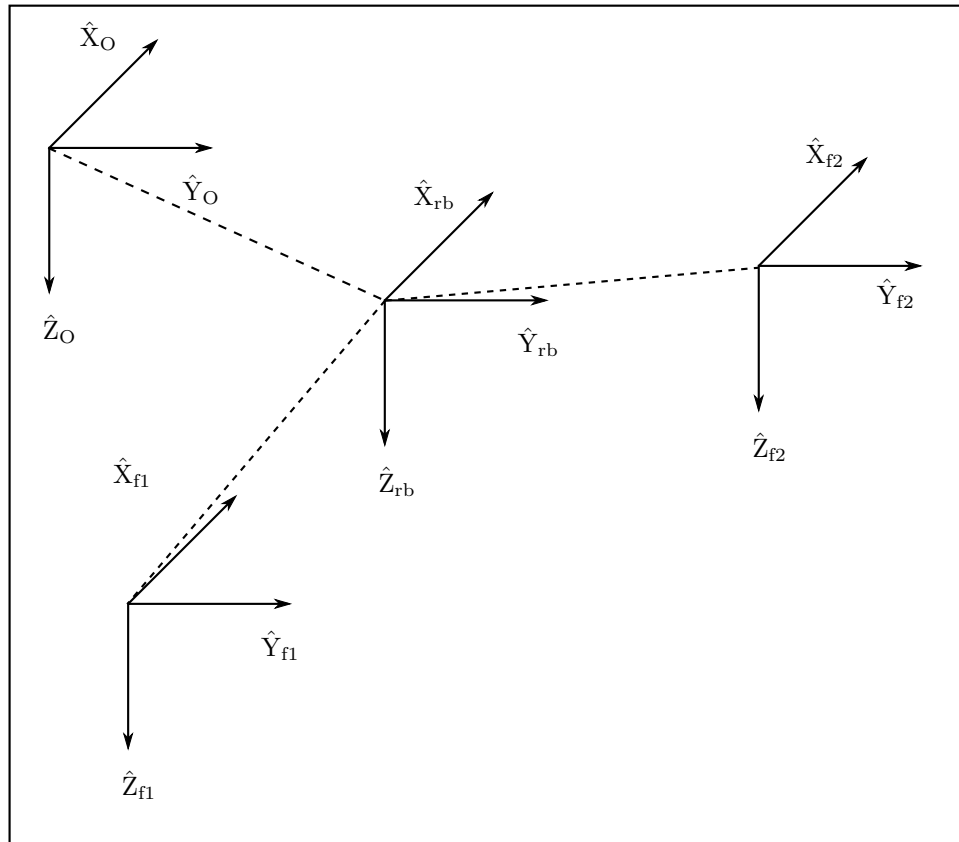

Figure 22: Reference frame layout
- ☞ An abstract diagram showing feature frames (f1 and f2) relative to the RigidBody frame (rb) which is relative to the global frame (O) can be seen in Figure 22.